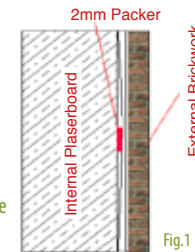

Fig.1
- It is therefore important that the installation of the door is plumb and square within the aperture, without twist or distortion between the frame and slab (see Fig 1), please check repeatedly during the installation.
- Step 6** When satisfied that the door closes correctly, fix the lock jamb in position ensuring that the middle of the frame (where the latch keep is positioned) is pushed outwards by approx 1mm to 2mm thus making sure that the top of the door shuts tightly in the frame and sits at least flush (see Fig 1).